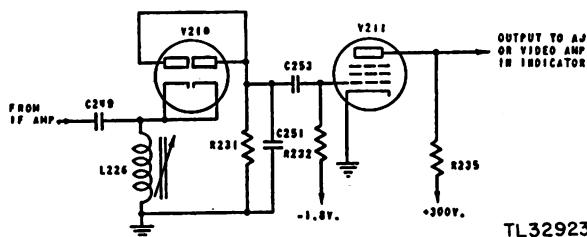
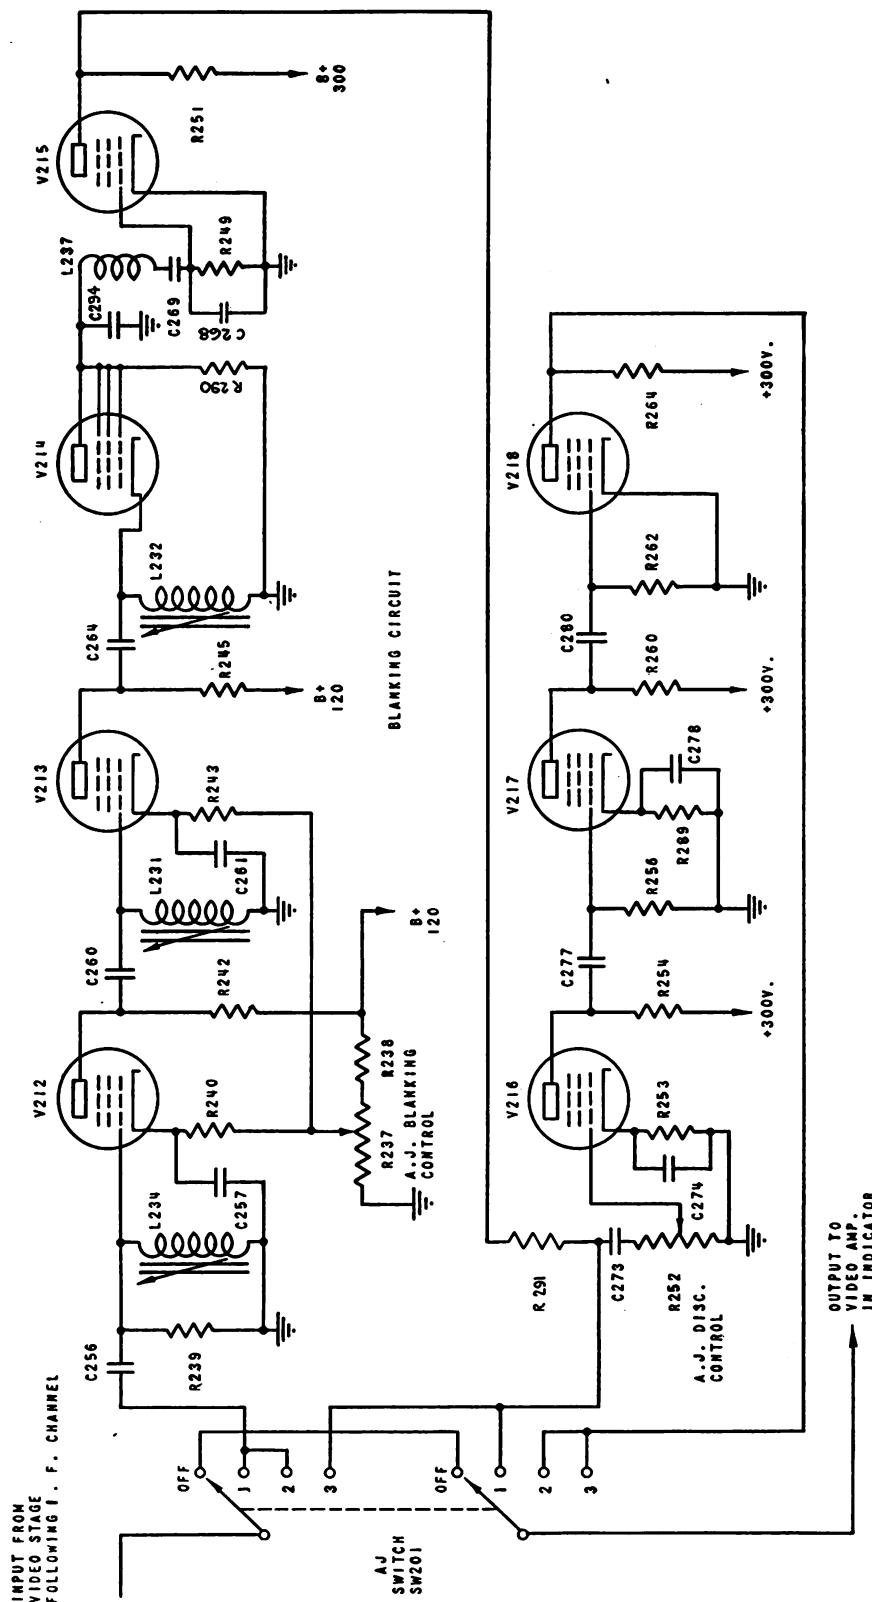

Figure 24. Receiver detector and video functional schematic.
Figure 26. A J functional schematic
**17. DETECTOR.** The signal from the 6th i-f amplifier is fed through capacitor C249 to the cathode of the diode detector V210 (figure 24). Since the signal is fed to the cathode, only the negative half cycles cause the tube to conduct the output, which is taken off the load resistor R231 and is a negative video pulse. Capacitor C251, which partially bypasses the load resistor, is made small enough so that the remaining i-f is about 10% of the video pulse. This i-f component of the video signal is necessary for the operation of the a-j blanking circuit, as explained in paragraph 19 below.
a. The video pulse is coupled through capacitor C253 to the grid of tube V211, the video amplifier (fig. 24). Tube V211 is slightly biased through resistor R232. The video pulse is amplified by the tube and appears in the plate circuit as a positive video signal. When the anti-jamming circuit is not used, the output of the video amplifier is fed through the AJ switch SW201, to the multiple plug board. From here it goes on to the video amplifier in the indicator unit.
*(a)* A simplified schematic diagram of the a-j circuits is shown in figure 26. Switch SW201 in the OFF position bypasses the a-j circuits completely. In position #1 the signal is coupled by C256 to the grid of V212. L234 is tuned to the i-f signal, presenting a high impedance to the intermediate frequency, but a very low impedance to video frequencies. If the video pulse is limited in V211 (fig. 24) no corresponding i-f signal will be present on the grid of V212 (fig. 26). If the video pulse is not limited, there will be i-f signal present on the grid of V212. In either case no video pulse is impressed on this grid because L234
SW201 on position #2, the signal goes through the blanking circuit in the manner just described, but instead of then going to the indicator, the video signal is coupled through C273 into the grid of V216 (fig. 26). The a-j discriminator control R252 is a potentiometer type voltage divider, which controls the amount of video signal that is impressed on the grid of V216. R253 provides self bias for V216 and C274, bypasses across the plate load resistor R254, and is coupled by C277 into the grid of V217. R256 returns the grid of V217 to ground, and in conjunction with C277 forms a filter which passes video frequencies to the grid of V217, but rejects undesired low frequencies (resulting from jamming). R289 provides self bias for V217, and C278 bypasses the cathode to ground. V217 further amplifies the signal, R260 being the plate load resistor; C280 couples the signal into the grid of V218, R262 returning the grid to ground. C280 and R262 form a filter in the same manner as C277 and R256. V218, operating with zero bias, further amplifies the signal, R264 being its plate load resistor. From the plate of V218, the signal goes to SW201 and thence to the indicator. With the switch SW201 on position #3, the video signal is coupled directly through C273 and R252 to the grid of V216, and goes through the discriminator circuit as described above, the blanking circuit not being used.